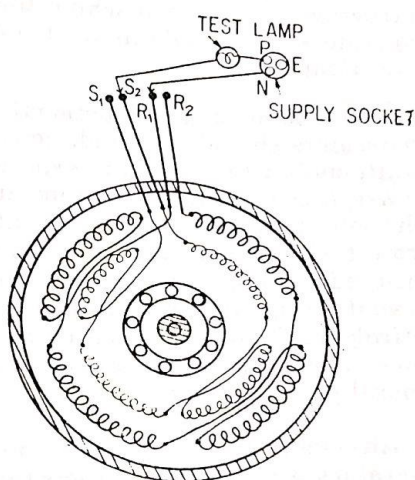

Fig. 6.84. Shows short Circuit Test between Running Winding and Starting Winding.
4. Short Circuit Test between Running and Starting Winding. By connecting testing leads to any one terminals of running winding and starting winding as shown in Figure 6.84, if the lamp gives light it is a short circuit. Check it and remove the defect by varnishing.